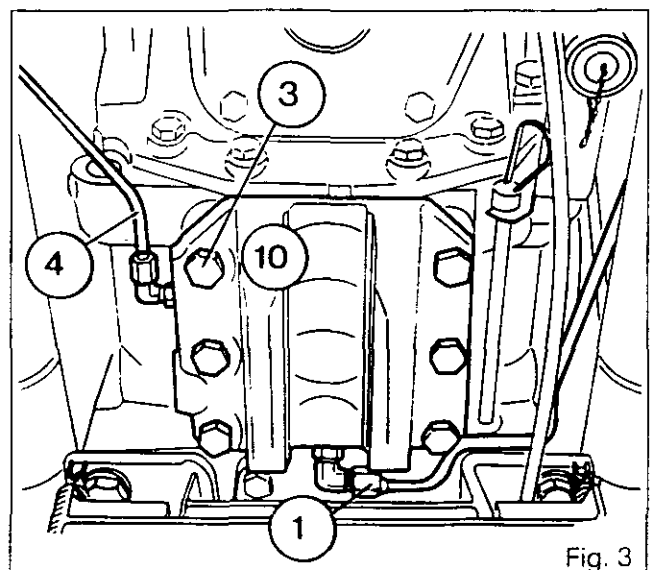
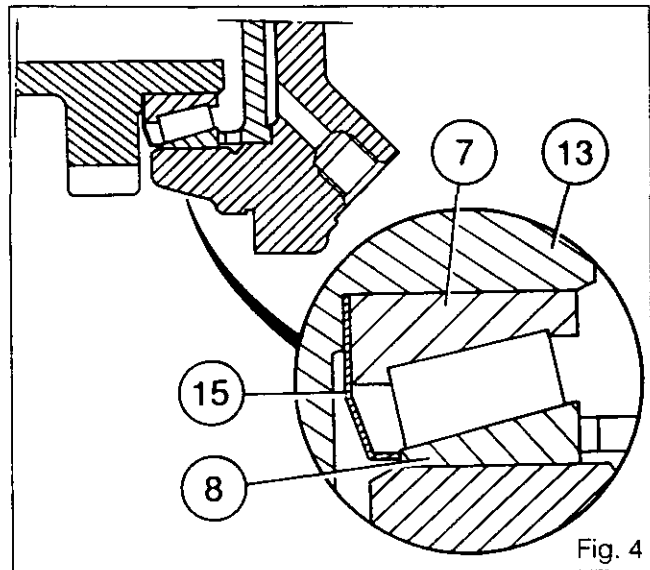
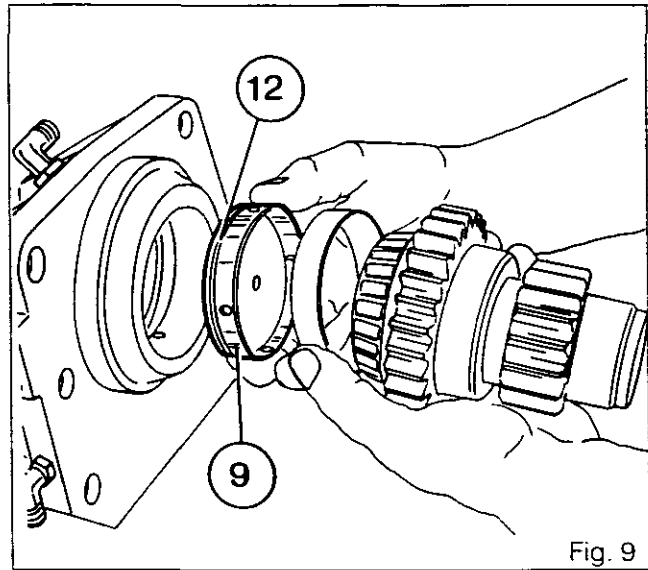

Fig. 3
Fig. 4
Fig. 9
4. Disconnect the supply tube (1) of the PTO brake (Fig. 3).
5. Disconnect the lubrication tube (4) (Fig. 3).
6. Remove the bolts (3) and the top link support (10) (Fig. 3).
7. Withdraw the pinion (13) and shaft (2) assembly held by the washer (5) and screw /6/. Remove the bearing cone (4).
**Note: The shaft (2) is mounted in the clutch (1) without locking screw.**
9. Refit the bearing cone (4). Fit the pinion (13) and shaft (2) assembly held by the washer (5) and screw /6/.
**Note: To ensure the lubrication of the bearing cone (7), a cup plug (36) is fitted without Loctite, recessed into the face of the housing.**
12. Refit the top link support (10). Fit and tighten the bolts (3) to a torque of 130-170 Nm (Fig. 3).
**Note: Ensure that the cup (8) is present.**
13. Reconnect the supply tube of the PTO brake (1) and the lubrication tube (4) (Fig. 3).
**Note: Shimming J1 must be carried out when working on the following parts: Pinion (13), deflector (15), bearing cones (4) (7), cups (3) (8), piston (9), support (10).**
**For correct shimming of the bearing cones (4) (7) and of the cups (3) (8), it is necessary to remove the lift cover.**
22. Disconnect the supply tube (1) from the PTO brake (Fig. 3).
23. Disconnect the lubrication tube (4) (Fig. 3).
24. Remove the bolts (3) of the top link support (Fig. 3) and detach it.
25. Withdraw the pinion (13) and shaft (2) assembly held by the washer (5) and bolt (6).
26. Remove the screw (6) and the washer (5).
27. Separate the pinion (13) from the shaft (2).
**Note: A deflector (15) mounted between the pinion (13) and the bearing cone (7), in contact with the cup (8) (Fig.4), has been introduced on 3000 tractors from serial number N120009 onwards.**
45. Fit the piston (9) with a new O-ring (12).
**Note: Position the lubrication holes of the piston toward the bearing cone (Fig. 9).**
46. Fit the cup (8) in the support.
47. Withdraw the pinion (13) and assemble on the shaft (2) with the washer (5) and bolt (6). Tighten to a torque of 50 Nm.
48. Refit the bearing cone (4). Fit the pinion (13) and shaft (2) assembly.
50. Refit the top link support (10). Fit and tighten the bolts (3) to a torque of 130-170 Nm (Fig. 3).
51. Reconnect the supply tube (1) of the PTO brake and the lubrication tube (4) (Fig. 3).